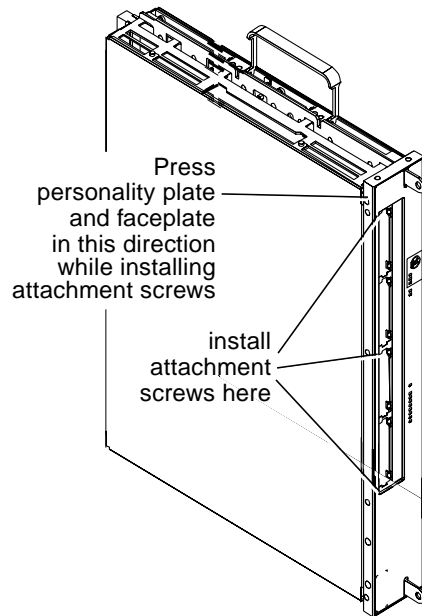

FIGURE 7 PCI Personality Plate Installation
3. Press the personality plate against the gasket to align the screw holes. Sustain this force to relieve the stress on the screw threads and install the three attachment screws. See FIGURE 7.